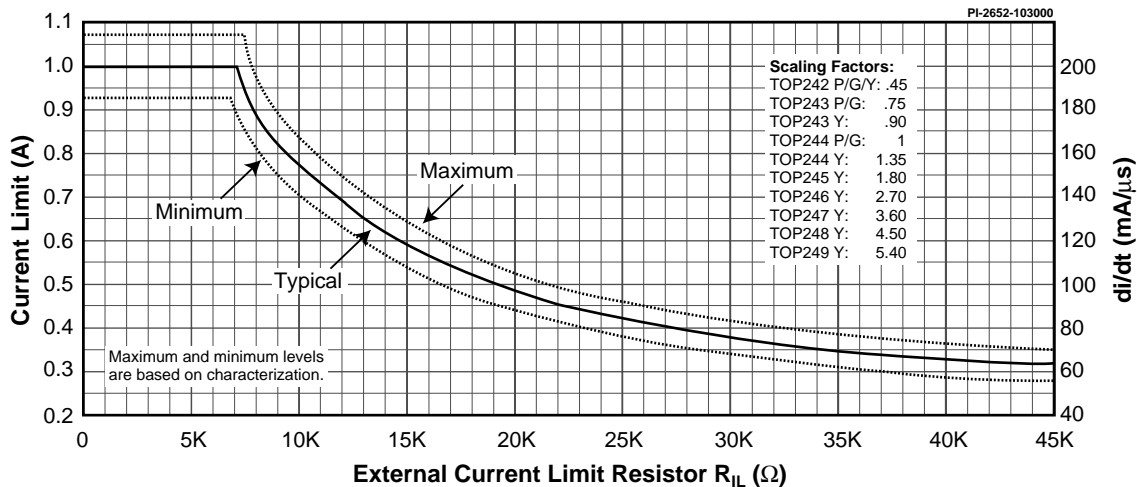

Figure 54. Current Limit vs. External Current Limit Resistance.
- C. For externally adjusted current limit values, please refer to Figure 54 (Current Limit vs. External Current Limit Resistance) in the Typical Performance Characteristics section.